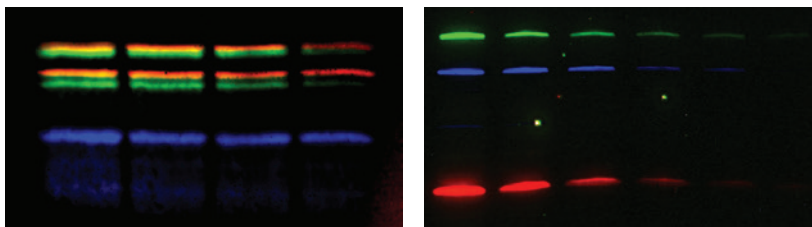

Fig. 9. Examples of multiplex western blots using 800 nm, 650 nm, and rhodamine channels.
For multiplex western blot applications, use the red, far red (FR), and near infrared (NIR) channels for detecting proteins of interest and reserve the blue channel for total protein detection using Stain-Free technology (Figure 9).